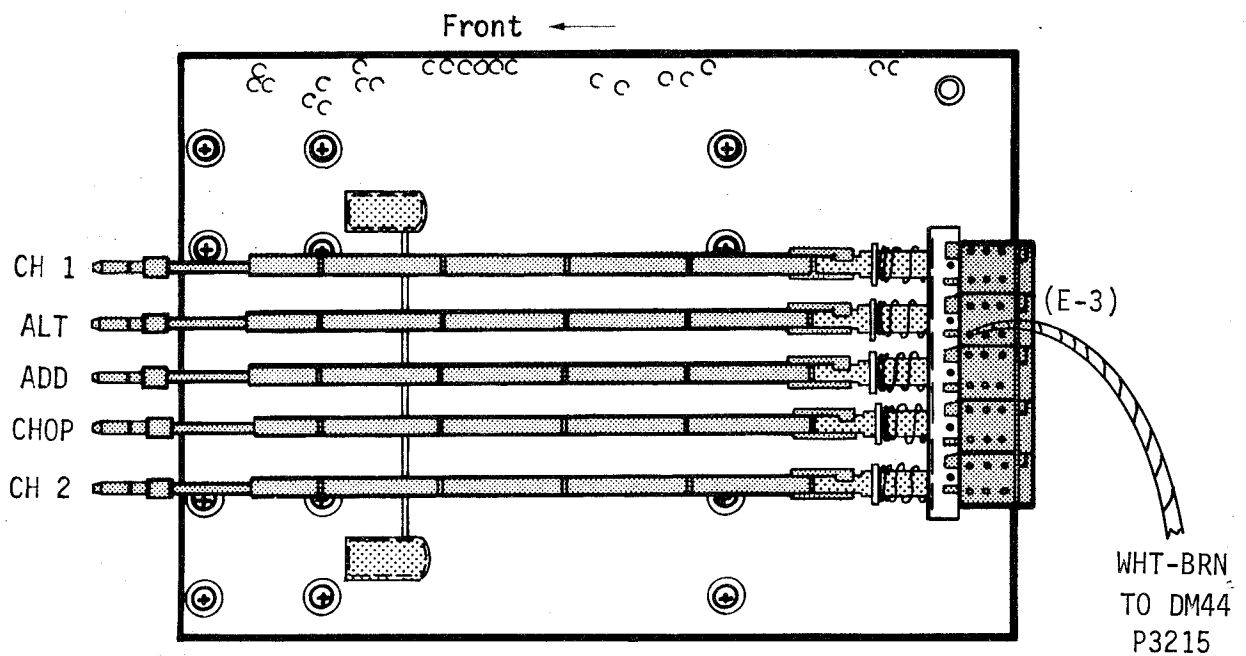

Fig. 5. Vertical Mode Switch Circuit Board.
E. TO MODIFY A-4 VERTICAL MODE SWITCH CIRCUIT BOARD, SEE Fig. 5:
- () 3. Solder the white-brown wire, from the three-conductor ribbon cable installed in step E-1, to the Vertical Mode Switch circuit board as shown in Fig. 5.